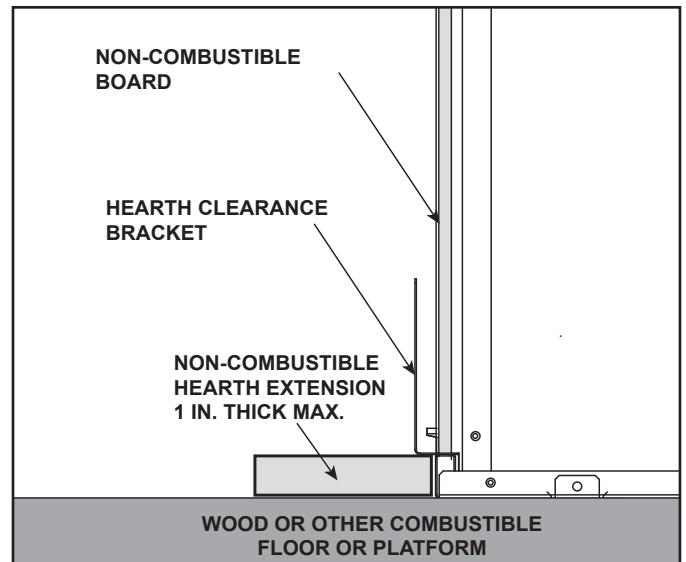
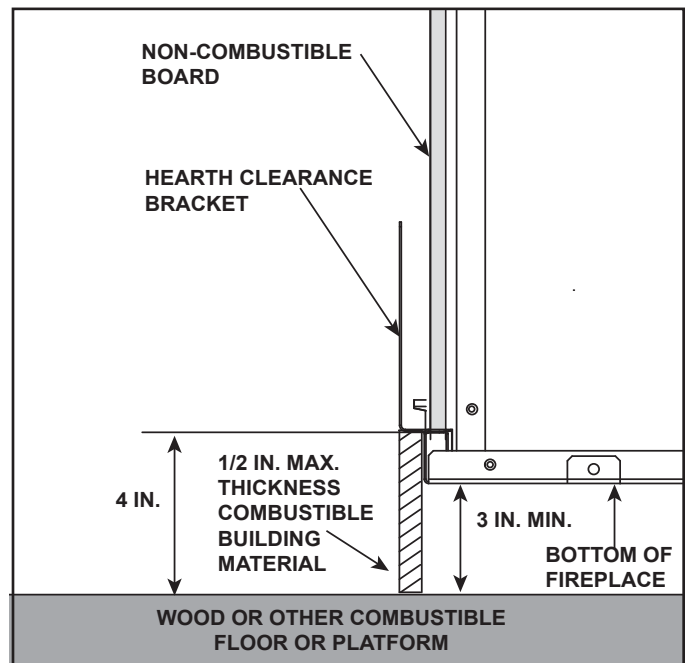

Figure 3.10 Appliance Installed on Combustible Surface
Figure 3.11 Appliance Raised a Minimum of 3 Inches Above
- Hearth extension must be non-combustible and serves to protect combustible floors in front of appliance. See Figure 3.9 and Figure 3.10.
- The base of the fireplace may sit on a combustible surface. See Figure 3.10. The area in front of the appliance must be protected by a non-combustible hearth extension, unless the appliance is raised a minimum of three inches above the combustible floor or hearth. See Figure 3.10 and Figure 3.11.
- If a hearth greater than one inch in thickness is desired, the appliance must be raised by the equivalent height to ensure that the hearth extension does not interfere with the installation of the glass assembly required for fireplace operation. See Figure 3.10.